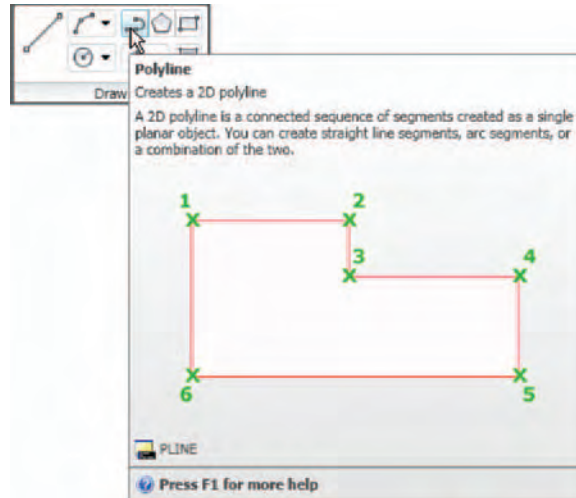

Fig. 3.25 Dynamic Input – first example – Polyline – selecting Polyline from the Home/Draw panel
1. Select **Polyline** from the **Home/Draw** panel (Fig. 3.25).